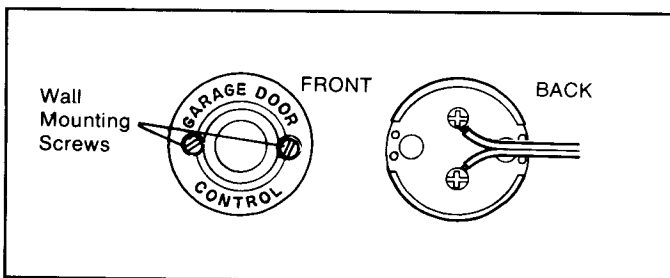

Figure 13. Wall Switch Wiring
Step 28: Attach one wire to each of the two terminal screws on the back of the wall switch (See Figure 13).